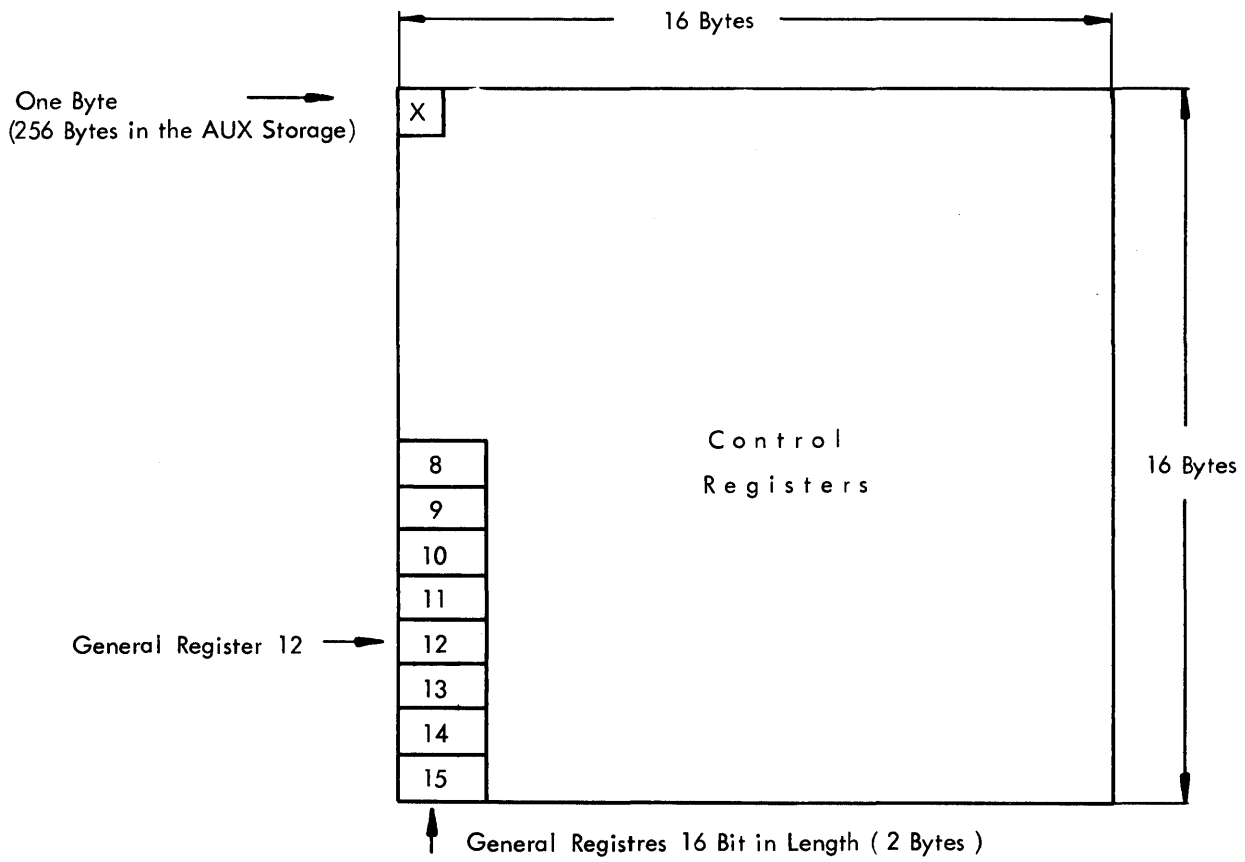

Figure 2-21 Aux Storage Content
- AUX contains 256 addressable bytes (0-255). (Figure 2-21).
- Auxiliary storage contains general registers and Control Registers (Figure 2-21).